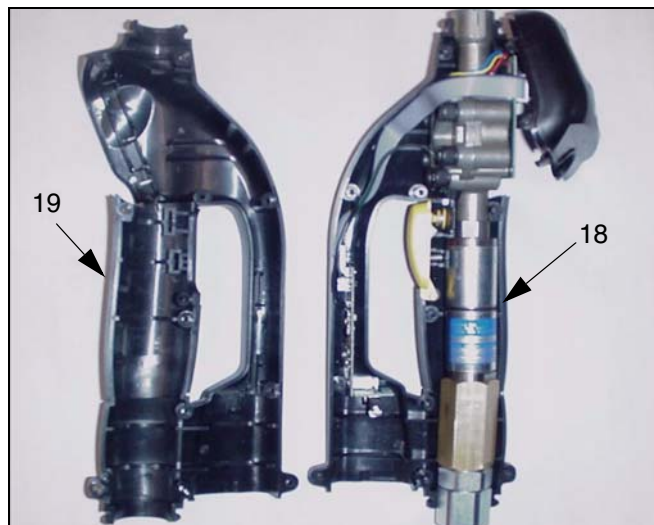

FIG. 33
7. Pull apart the two cover halves leaving all parts in the right cover half (18).
All services to the meter should be done using the right cover half (18) of the meter. If parts should disengage as the covers are separated, reposition the parts back into the right cover half (18). See FIG. 33.